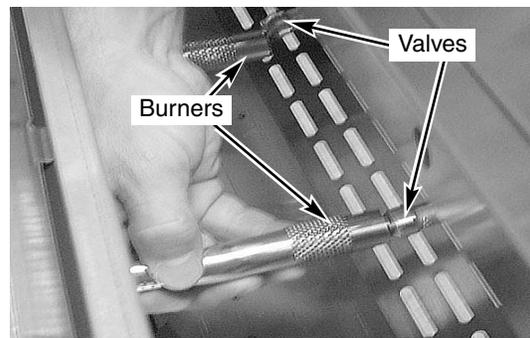

Fig 17
21. Reinstall burners into the grill body. Line up the burners with the valves on the manifold, making sure they are level (Fig. 17 & 18).